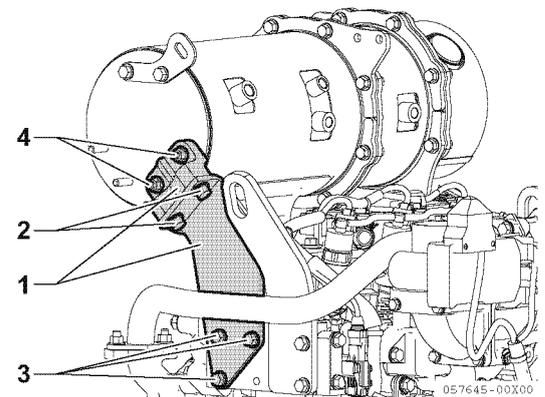

Figure 13-28
- Next, affix the DPF unit to the DPF stay on the flywheel housing side. First, slightly loosen the fixing bolts (2, Figure 13-28) of the DPF stay (1, Figure 13-28) on the flywheel side in 2 locations so that these have some play. Temporarily tighten the fixing bolts (4, Figure 13-28) that fix the DPF unit and stay. Next, temporarily tighten the DPF stay fixing bolts (2 Figure 13-28) until it seats, then fully tighten the DPF and stay fixing bolts (4 Figure 13-28). Lastly, fully tighten the DPF stay fixing bolts (2 Figure 13-28).
*Note: In principle, it is not necessary to loosen the fixing bolts (3, **Figure 13-28**) that affix the DPF stay to the engine, however adjust according to conditions.*